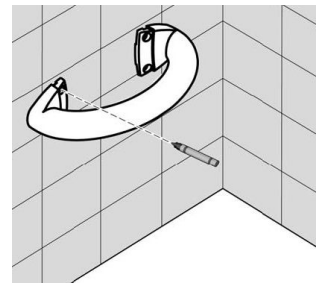

Fig. 6
2. Place the bathroom handle in the desired position against the wall and mark the mounting points using a scribing tool (Fig. 6).